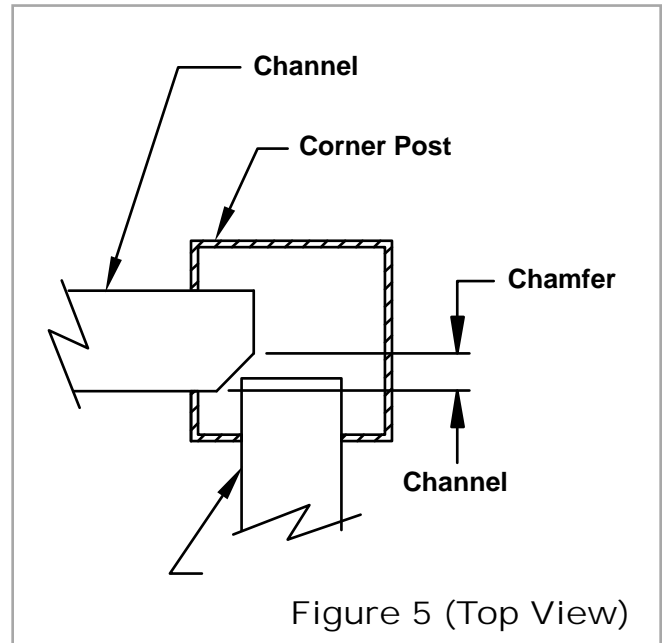

Figure 5 (Top View)
7. When inserting panels into a corner post, the channels on one panel need to be cut at an angle so that both panels fit all the way into the post. (Figure 5)